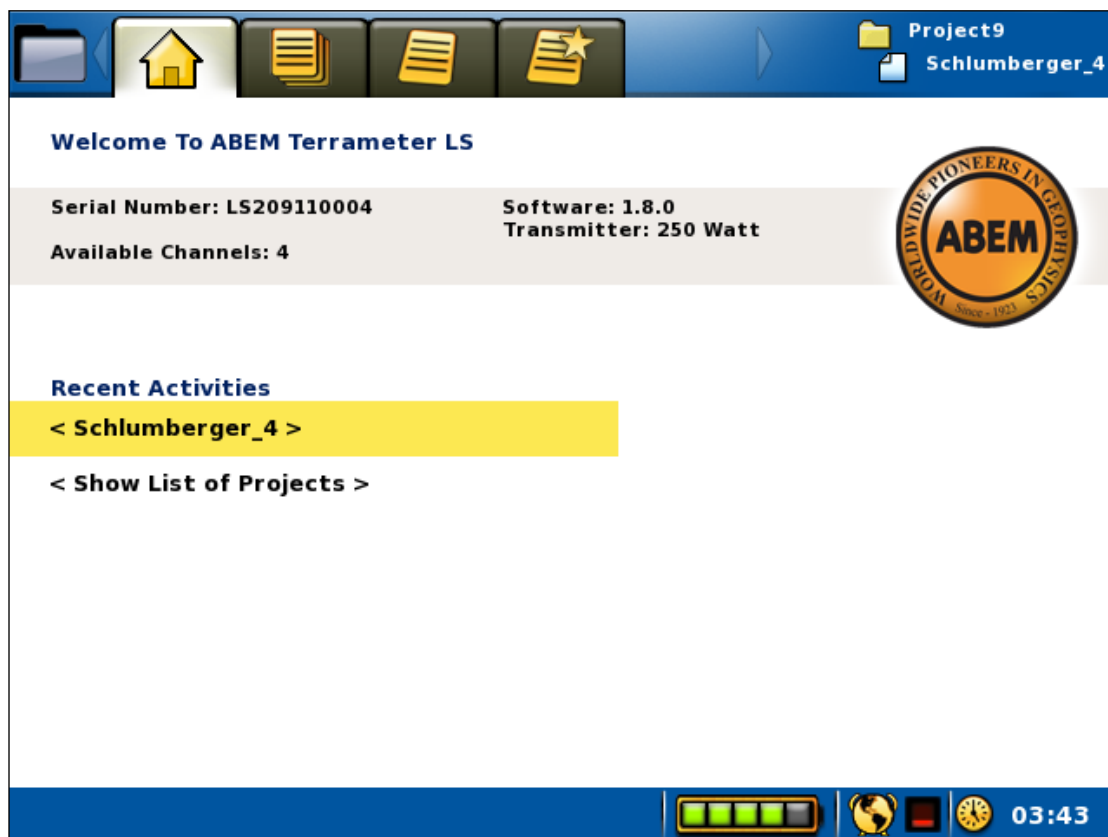

Figure 10 The Start View
When starting the Terrameter LS the “*Projects/Welcome*” *View* (Figure 10) will appear. Here the serial number of the instrument, the number of measuring channels,
- Otherwise if the active *Project* does have a *Task* then the name of the active *Task* will be shown. See Figure 10 for an example. Pressing <Ok> will in this case change to the “*Measure/Progress*” *View* of this *Task*. This *View* is explained in chapter 6.9.1